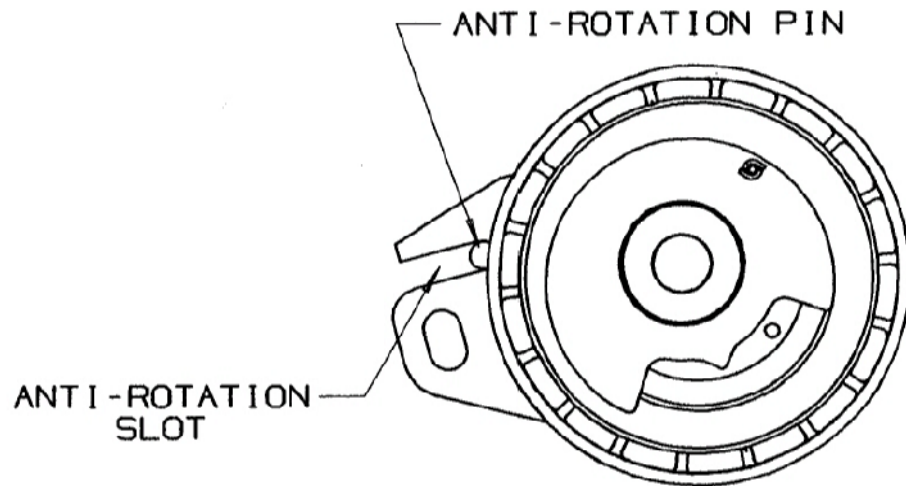

Figure 1: Tensioner Shown at Free-Arm Position Placed on the Mounting Bracket.
4. Place a new tensioner onto the mounting bracket. Tensioner's Anti-Rotation Slot should fit over the Anti-Rotation Pin on the bracket (See Figure 1).